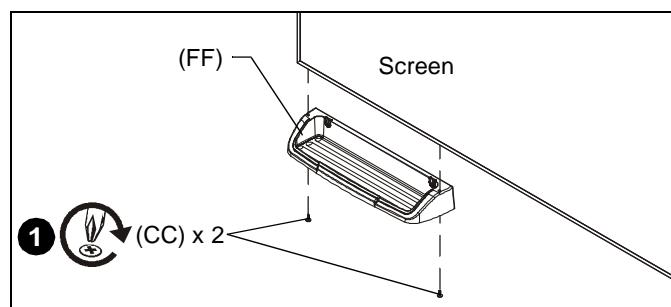

Figure 26
1. Attach marker tray (FF) at any point along bottom of screen using two #8 x 1/2" self-drilling screws (CC). (See Figure 26)